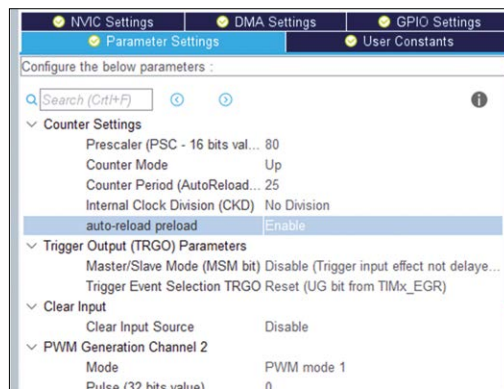

Figure 10.6: Parameter settings.
- We now have to set the timer parameters for the required PWM specifications. The required PWM period is 0.025 ms (25  $\mu$ s, 40 kHz) and the required PWM pulsewidth is 0.0125 ms (12.5  $\mu$ s, i.e. 50% duty cycle). The timer clock frequency is set to 80 MHz (period = 0.0125  $\mu$ s). If we set the prescaler to 80, then  $80 \times 0.0125 = 1 \mu$ s. Therefore, for a period of 25  $\mu$ s, the counter should be set to  $25 / 1 = 25$ . Enable **auto-reload preload**. Leave the other settings as they are (see Figure 10.6). The pulsewidth can be selected later when the code is generated.